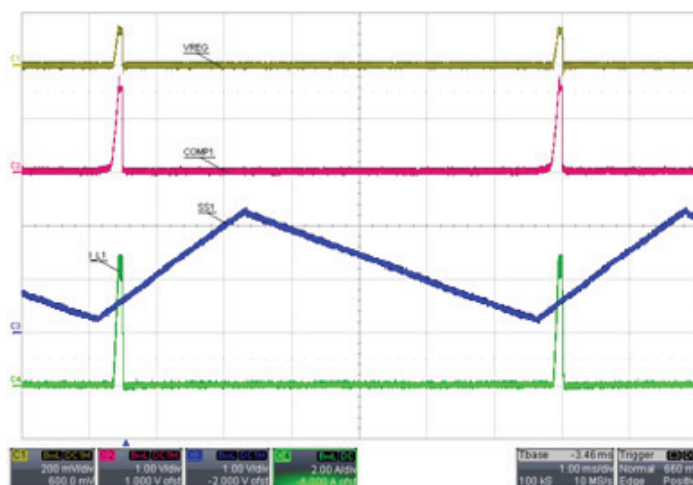

Figure 2: Pre-Regulator Hiccup Mode Operation when VREG is Shorted to GND and $C_{SS1} = 22\text{ nF}$
6. Hiccup mode short-circuit protection (refere to Figure 2)